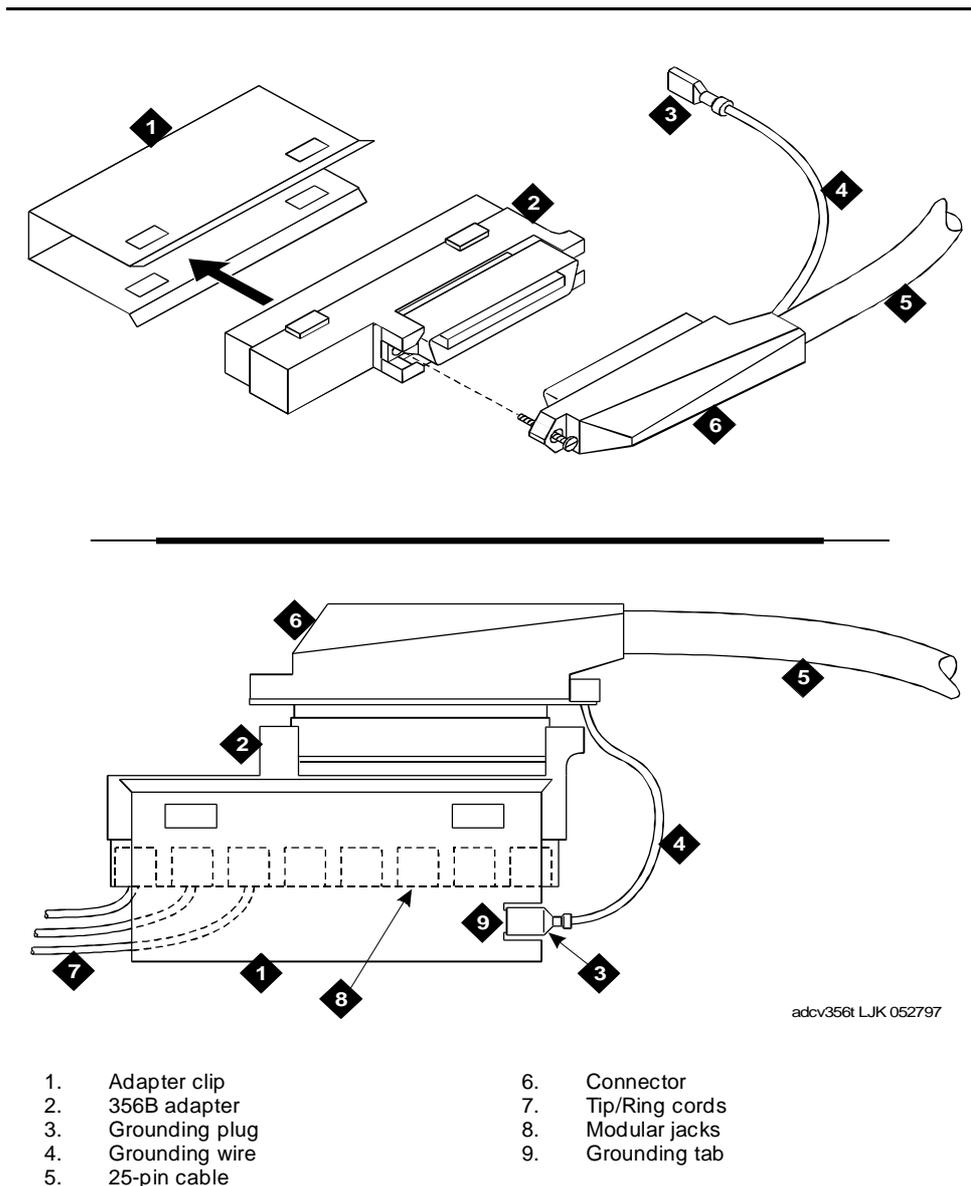

Figure 3-4. Tip/Ring Circuit Card Distribution Hardware Assembly
Using the 356B adapter or line splitter (Figure 3-4) to connect the IVC6 Tip/Ring circuit card to the telephone line enables you to use eight 6-pin conductor modular cords.
The Tip/Ring distribution hardware (Figure 3-4) consists of:
2. Verify that all of the necessary components are included (Figure 3-4).
4. Plug the 16-inch, 6-pin modular cords (H600 - 488, Group 1) from the Tip/Ring circuit cards into the 356B adapters. Each adapter can accommodate up to eight modular cords (Figure 3-4).